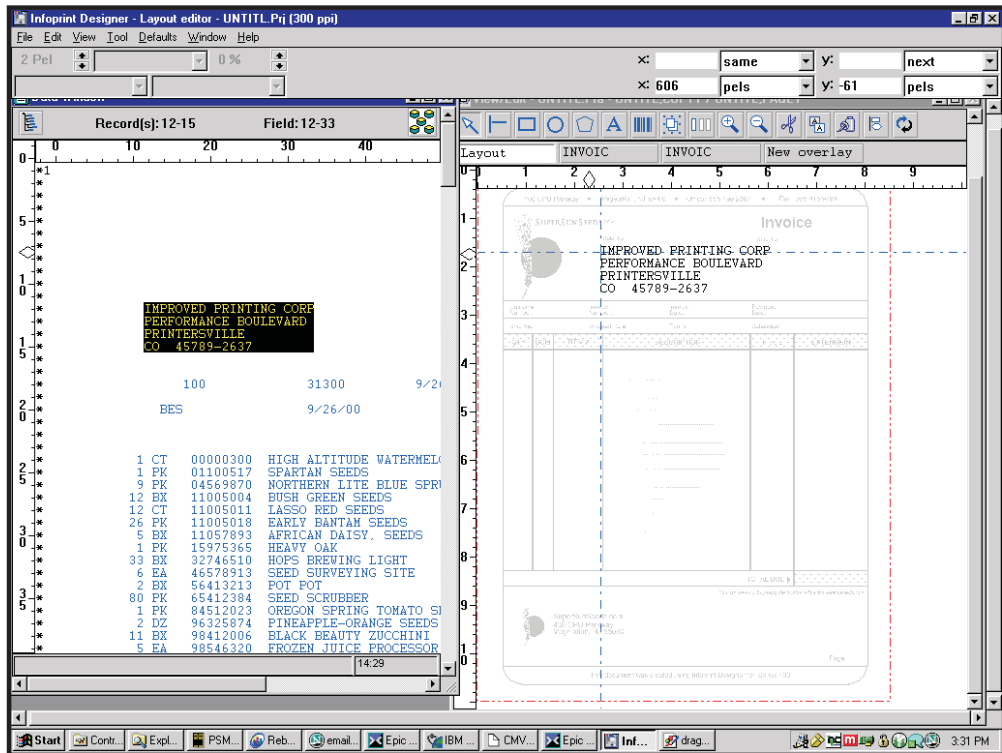

Figure 71. Positioning Text in the View/Edit Window
11. To begin mapping data, hold down the left mouse button and select the entire address block. Right-click (and hold down) anywhere inside the selected block and drag the text over to the **View/Edit** window until you have the address positioned at X = 2.5 in (or 600 pels), Y = -.25 in. (or -60 pels). Figure 71 on page 178 shows the data being positioned in the **View/Edit** window. You can see the X and Y coordinates at the top, right-hand corner of the screen.